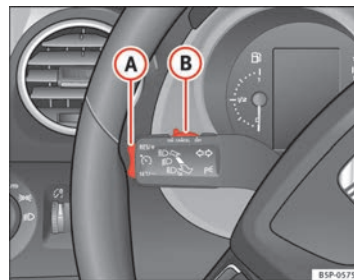

Fig. 152 Turn signal and main beam headlight lever: switch and rocker switch for the cruise control
- Press the upper part **RES/+** of the rocker switch ⇒ fig. 152 **A** to increase the speed. The vehicle will continue to accelerate as long as you keep the rocker switch pressed. When you release the switch, the new speed is stored.
Cruise control is switched off if you reduce speed by depressing the brake pedal. You can reactivate the control by pressing once on the upper part of the rocker switch **RES/+** ⇒ page 193, fig. 152 **(A)**.